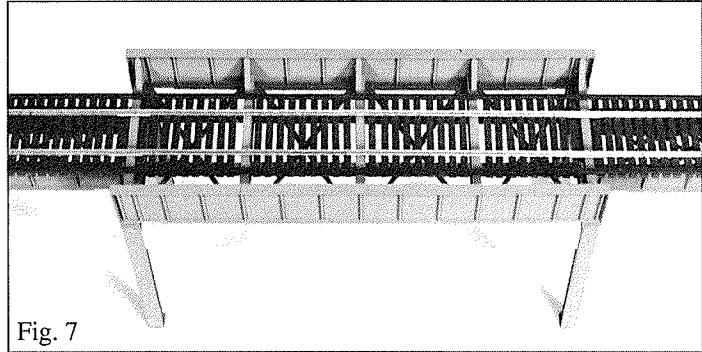

Fig. 7
1. Connect the sections of **bridge Flex-Trak** (18) together using the **rail joiners** (19) or solder the rail ends together. To enable the bridge track ties to sit on the **stringers** of the thru girder span(s), six ties must be removed from the section of track where they interfere with the **crossbeams** (see fig. 7). Cut out two ties at the center **crossbeam** and a single tie at the other four **crossbeams** so the track on the thru girder span will be left with four sections of nine ties. Adjust the spacing of these four tie sections and the spacing of individual ties for proper fit to the span. Use care when cutting and spacing ties to avoid popping the remaining ties off the rail. If building a 160' bridge, repeat with the second thru girder span. Trim the track to length to fit your bridge but do not cement the track to the bridge yet.